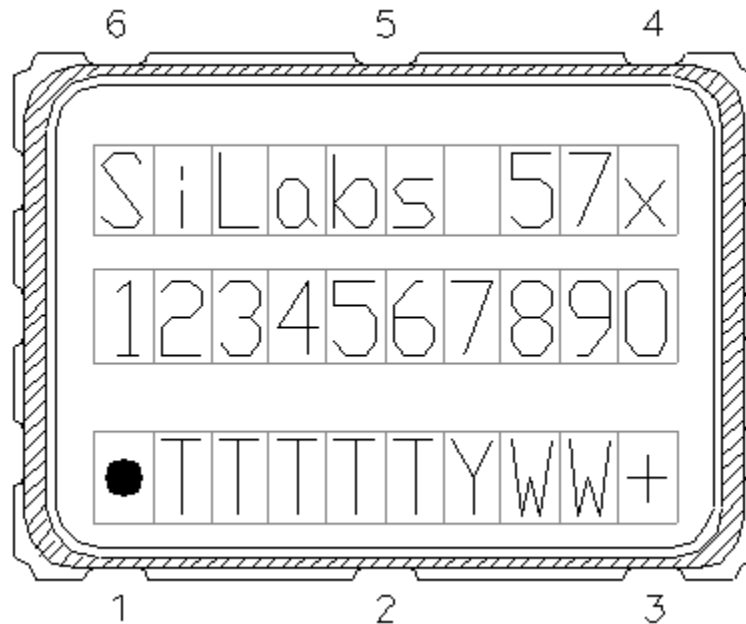

Figure 7. Mark Specification
Figure 7 illustrates the mark specification for the Si57x. Table 16 lists the line information.
- Updated Figure 7 and Table 16 on page 32 to reflect specific marking information. Previously, Figure 7 was generic.